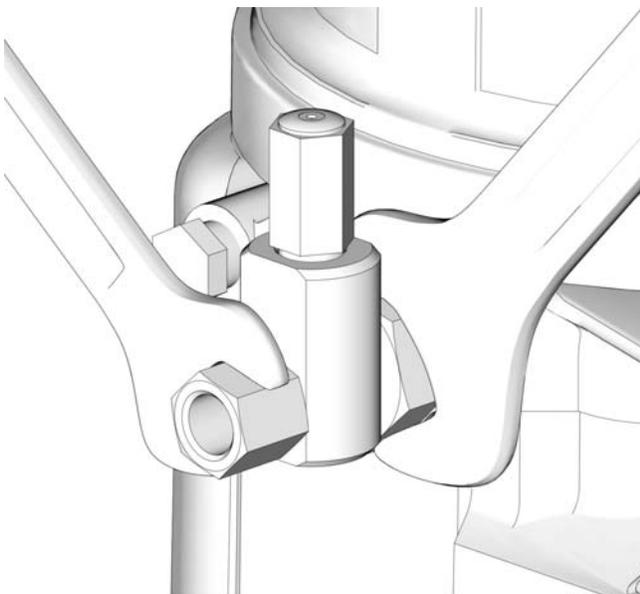

FIG. 19
- Always use two wrenches working in opposite directions when connecting anything to pump element or auxiliary fittings. See FIG. 19 for an example.